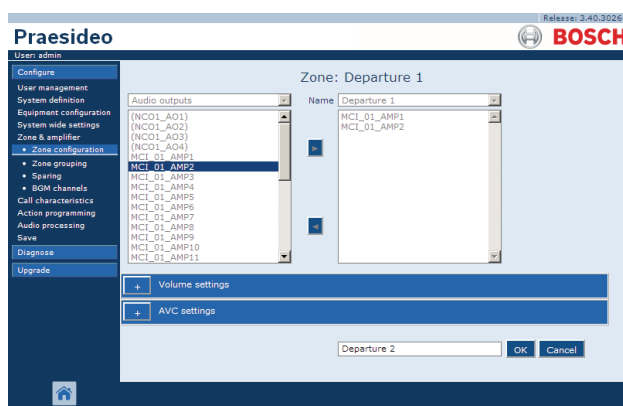

figure 46.4: Add zone, step 2
- 2 Click the *Add* button and enter a name for the new zone in the textbox at the bottom of the page. For example, *Departure 2* (see figure 46.4). It may consist of up to 16 characters.